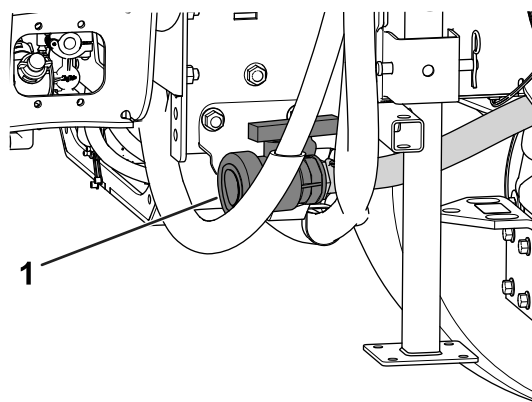

Figure 85
2. Locate the tank drain valve on the right side of the machine (Figure 85).